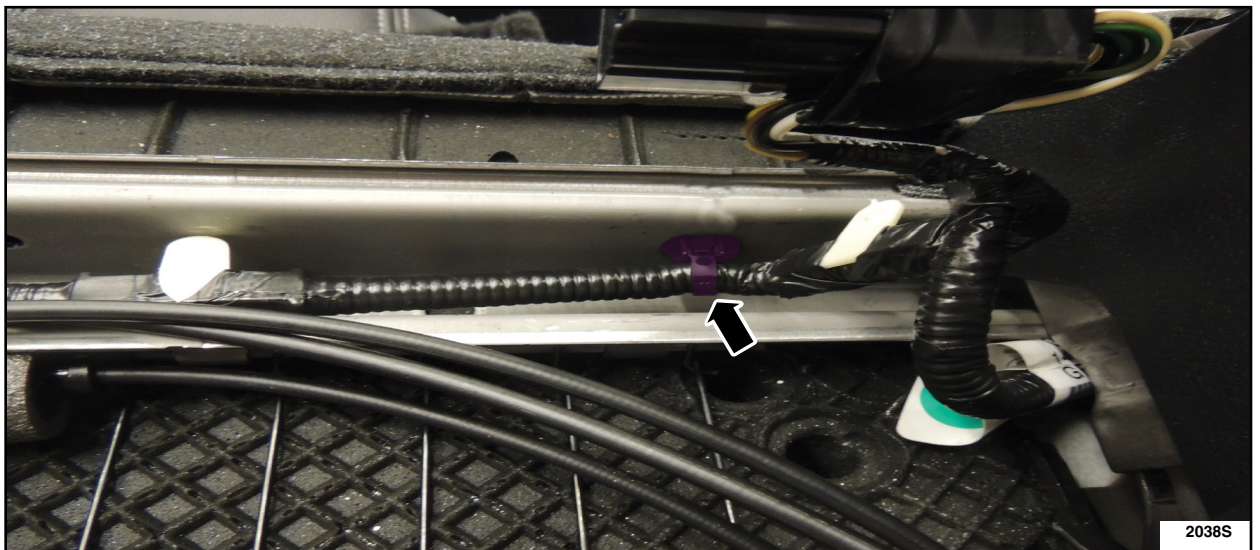

FIGURE 13
16. Install a *new* zip-tie wire harness electrical connector retainer (one closest to the electrical connector) to secure the wire harness to the seat frame. See Figure 13.